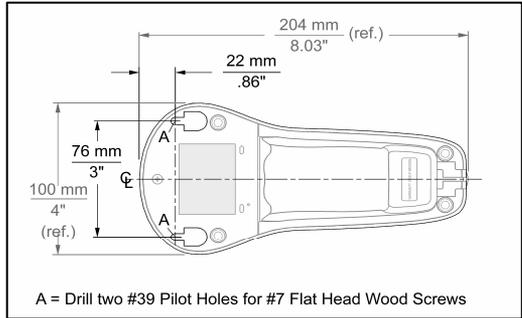

Figure 15. Hole Pattern
- Figure 15 provides the pilot hole dimensions for securing the cradle base.